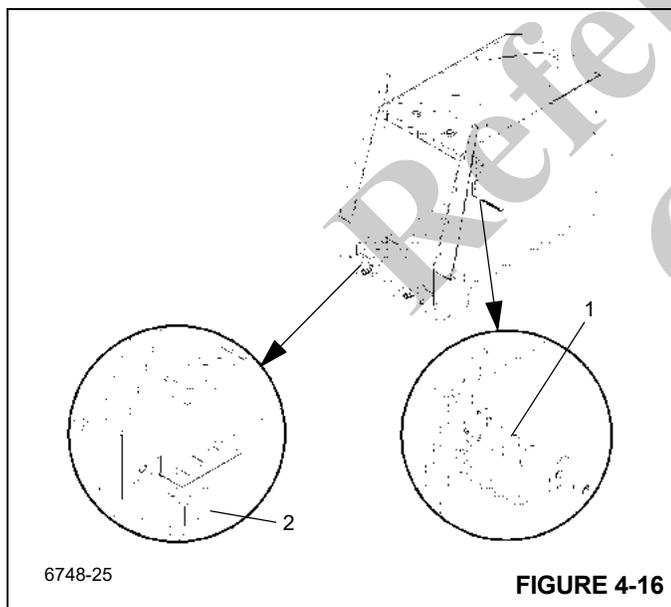

FIGURE 4-16
5. Remove the two screws securing each top (1), (Figure 4-16) and bottom (2), (Figure 4-16) side wear pads at the front of the base section. Remove wear pads, shims, and mounting angle (top left side only).